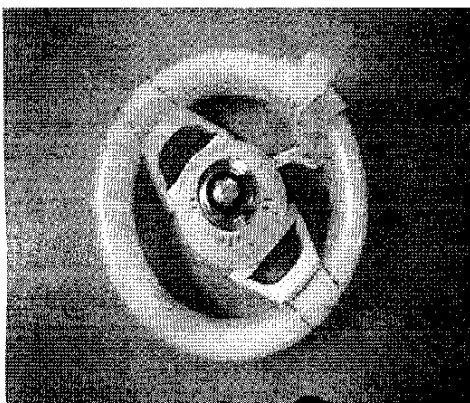

FIG.4
4.Congratulations you have completed the assembly.(as shown in fig.4)